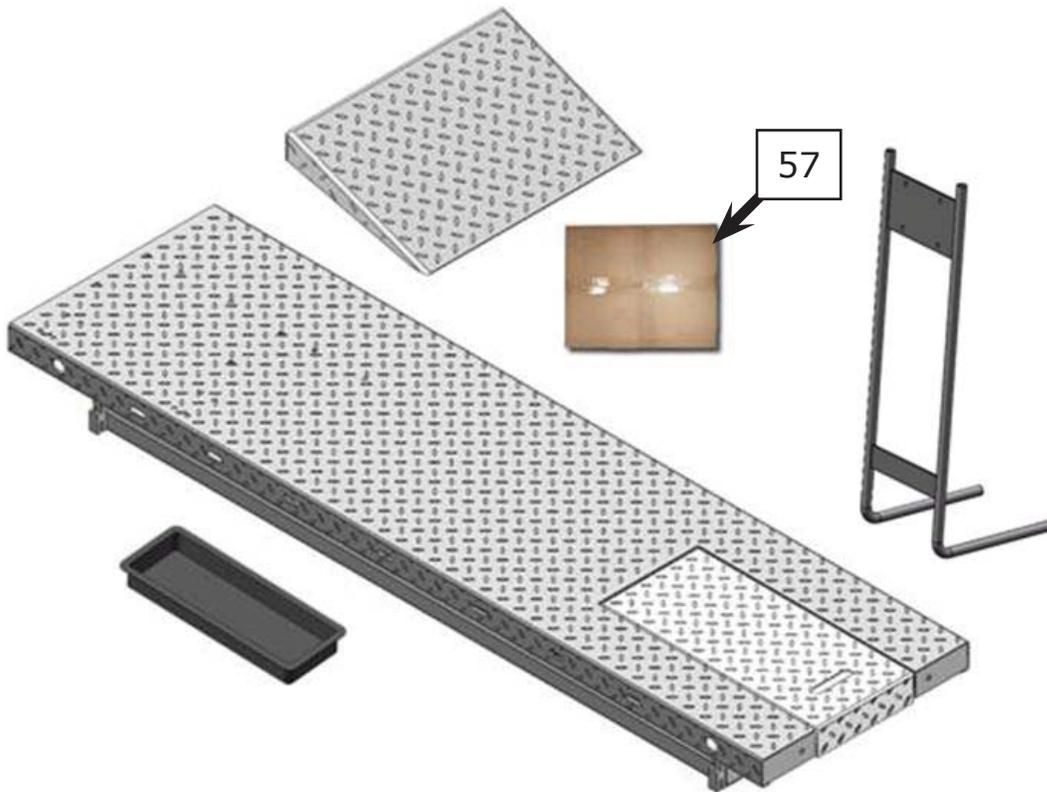

Fig. 3
1. Packaged cargo (lift, drive-in ramp, Parts box, control cabinet, Clamping device). Move the parts aside, open the outer packing and check the parts according to the shipment parts list. (See Fig. 3)